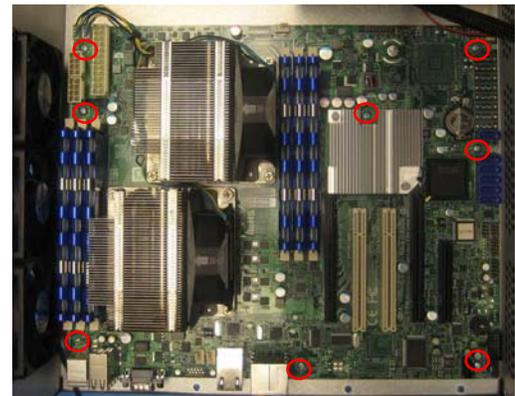

Figure 3-101
- 11) Remove the eight screws holding down motherboard as illustrated in Figure 3-101